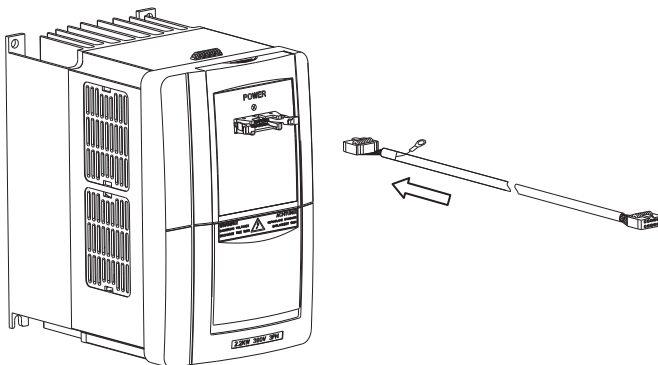

Fig. 3-10 Mounting Diagram for the operator panel and connecting wire of the inverter Model A
Step 3. Insert the optional cable with the grounding side into the slot of interface board . (as shown in Figure 3-10).